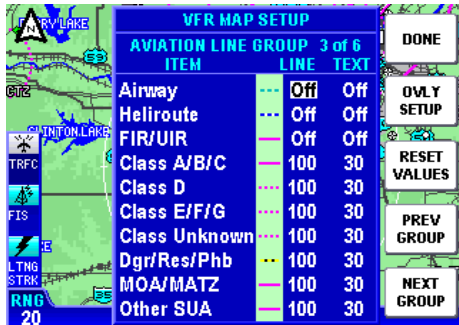

Figure 1-165
3. Press the **NEXT GROUP** Softkey to display the **AVIATION LINE GROUP** Page as in Figure 1-165.